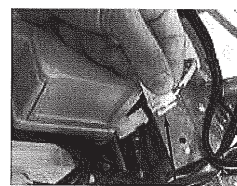

Fig. 9c
7. Connect sensor end 'A' to the two-pin connector (green wires) from the control box (Fig.9c).